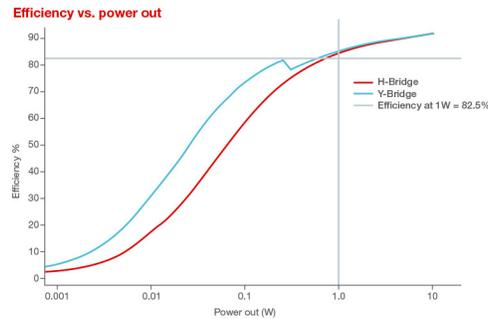

Figure 2. Higher efficiency at low power levels and in standby mode
- **Y-bridge multilevel voltage input.** A Y-bridge input is great for devices with long idle periods, like smart speakers. Most of the day they are idle, but the amplifier still draws power. A Y-bridge multilevel input draws power from a 3-V rail while idle, then dynamically switches to the high-voltage rail when necessary. Figure 2